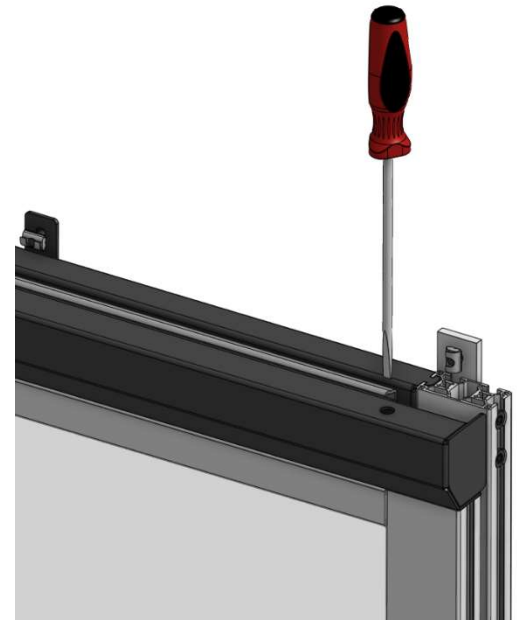
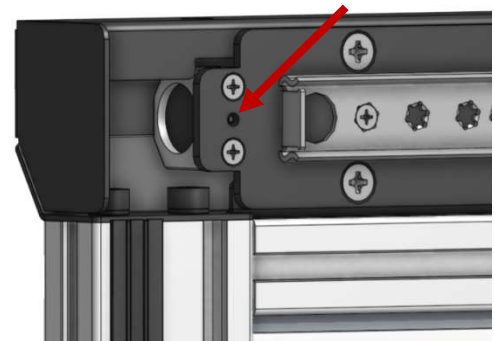

Figure 20. Access the auto-close damping adjustment screw through the hole in the top of the door panel top rail.
Figure 21. Access hole for auto-close cylinder retention set screw. **DO NOT ADJUST.**
1. Access the auto-close cylinder damping screw through the hole in the top of the door panel top rail. Use a #2 Flathead Screwdriver to adjust the auto-close damping (see *Figure 20*). NOTE: Unthreading screw too far will result in the damping screw and O-ring popping out of the cylinder housing, requiring door panel disassembly to replace.
2. **DO NOT ADJUST THE AUTO-CLOSE CYLINDER RETENTION SET SCREW** (see *Figure 21*). Overtightening the set screw can damage the auto-close mechanism. The set screw should only be adjusted during disassembly to correct the orientation of the auto-close cylinder if the cylinder damping screw (*Figure 20*) is misaligned.